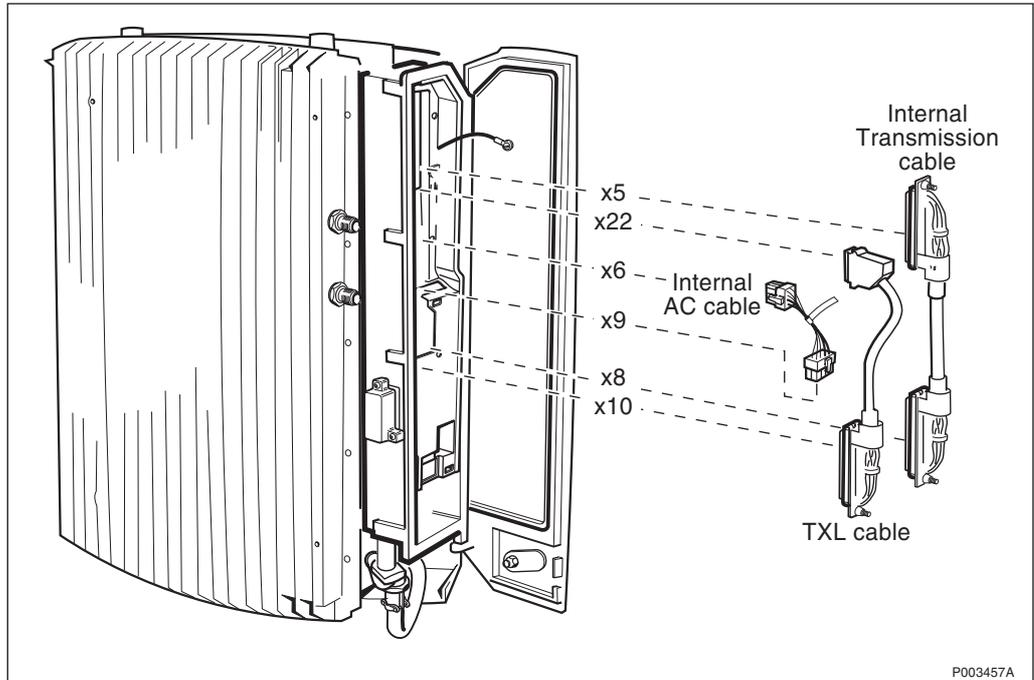
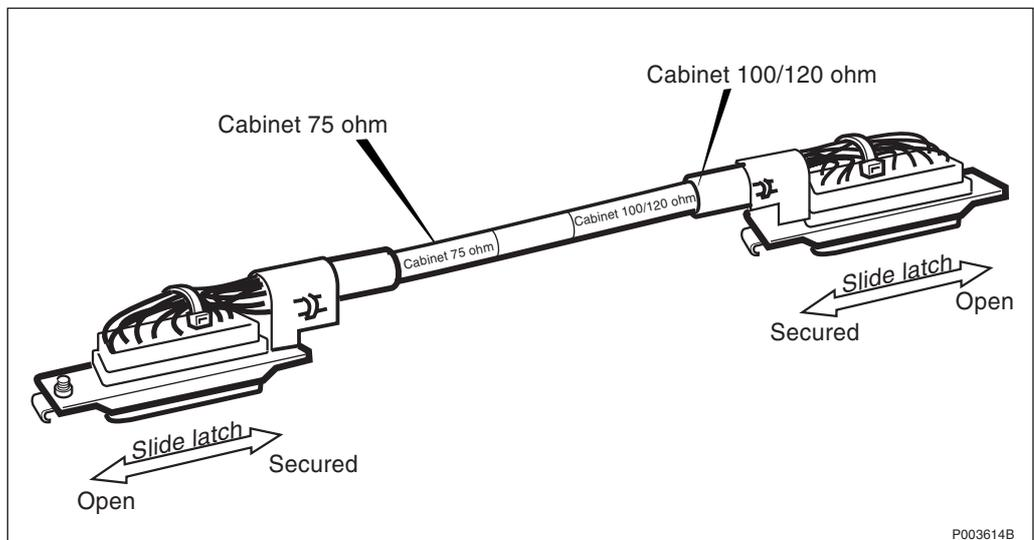

Figure 184 Connecting cables between cabinet and mounting base
Figure 185 Transmission cable
- Connect the transmission cable between the connection board and cabinet. If a  $75\ \Omega$  transmission system is used, insert the cable end marked Cabinet 75 ohm into the cabinet. If a  $100/120\ \Omega$  transmission system is used, insert the cable end marked Cabinet 120 ohm into the cabinet. Secure it with the slide latch. See Figure 184 on page 168 and Figure 185 on page 168.